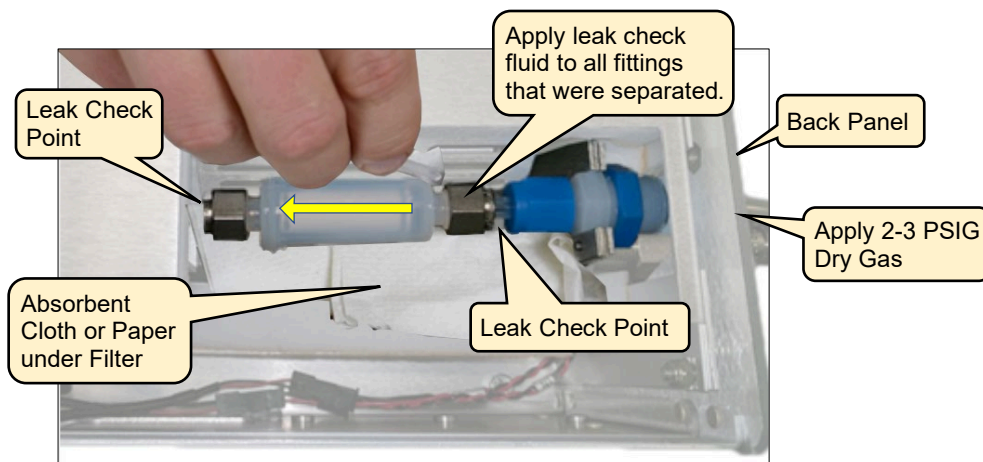

Figure 42: PI2114 Filter – Leak Test After Reassembly – PTFE Filter
2. Release the captive screws (Figure 42) and slide the filter assembly out of the analyzer filter bay. There may be some resistance as the filter is removed. This is due to the frictional resistance of the male quick-disconnect O-rings within the female receptacle.